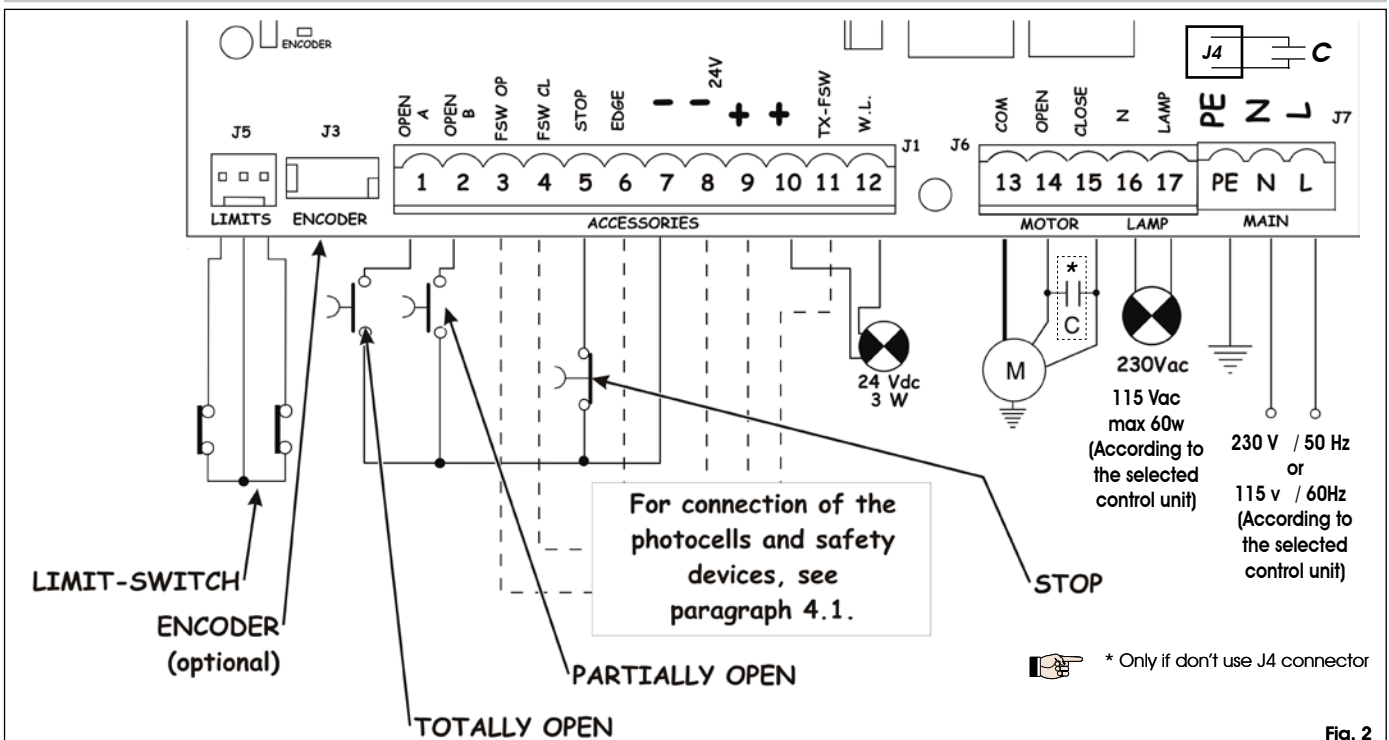

Fig. 2
Connect the earth cable to the appropriate terminal on the J7 connector of the equipment (see fig.2).
4.2. J7 Terminal board - Power supply (fig. 2)
4.3. J6 Terminal board - Motors and flashing lamp (fig. 2)
4.4. J1 Terminal board - Accessories (fig. 2)
4.6. Connector J6 - Limit-switches rapid connection (fig.2)
This input is intended for rapid connection of the opening and closing limit-switches designed to stop the leaf, or for start of decelerations or for braking (see advanced programming in Chpt. 5.2.). In gearmotors with a built-in control unit, this connection is pre-wired as standard (fig. 2). For leaf opening direction, see advanced programming in Chpt 5.2.
4.7. Connector J3 - Encoder rapid connection (fig.2)